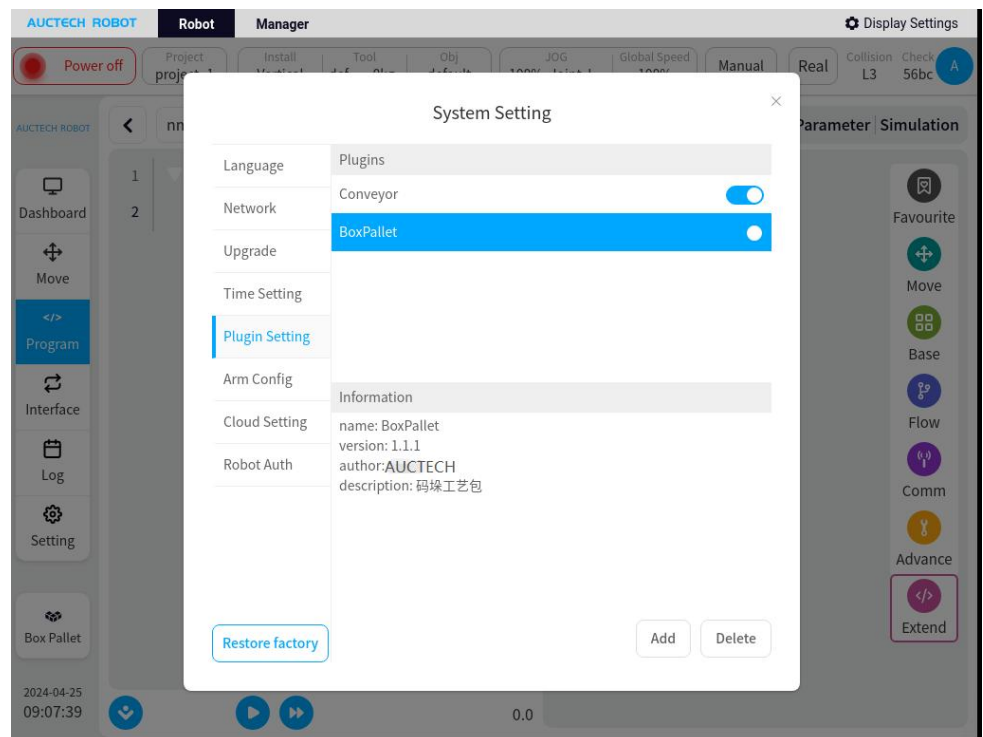

Figure 8
10、 The installed palletizing process package, as shown in Figure 8 below, can be temporarily disabled by turning off the enable signal. Or click the Delete button to delete the package completely.